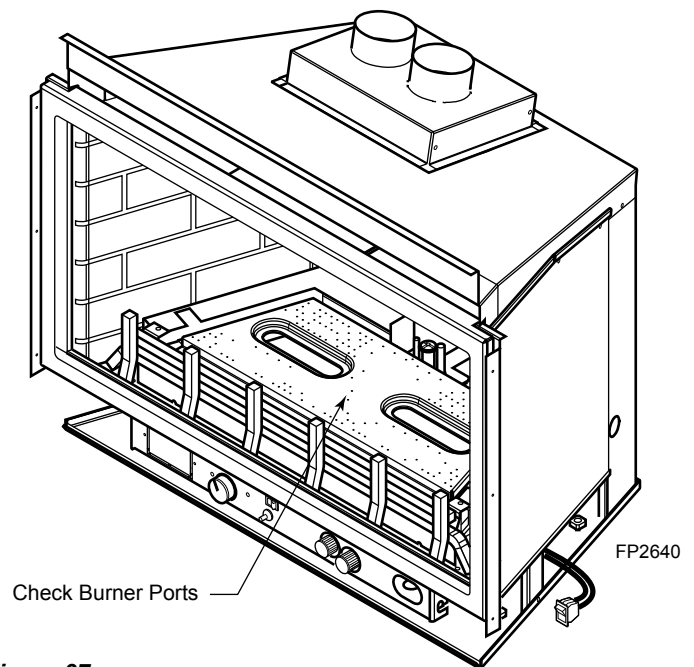

**Figure 37 -**
4. Clean burner and burner ports. *Figure 37*